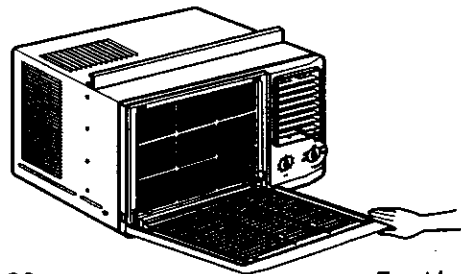

Figure 98
- Close filter door. (See Figure 98)